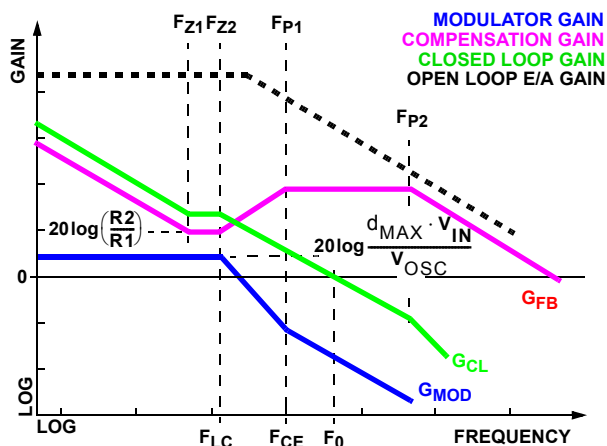

FIGURE 10. ASYMPTOTIC BODE PLOT OF CONVERTER GAIN
Figure 10 shows an asymptotic plot of the Buck converter's gain vs. frequency. The actual modulator gain has a high gain peak dependent on the quality factor (Q) of the output filter, which is not shown. Using the above guidelines should yield a compensation gain similar to the curve plotted. The open loop error amplifier gain bounds the compensation gain. Check the compensation gain at F_{P2} against the capabilities of the error amplifier. The closed loop gain, G_{CL} , is constructed on the log-log graph of Figure 10 by adding the modulator gain, G_{MOD} (in dB), to the feedback compensation gain, G_{FB} (in dB). This is equivalent to multiplying the modulator transfer function and the compensation transfer function and then plotting the resulting gain.